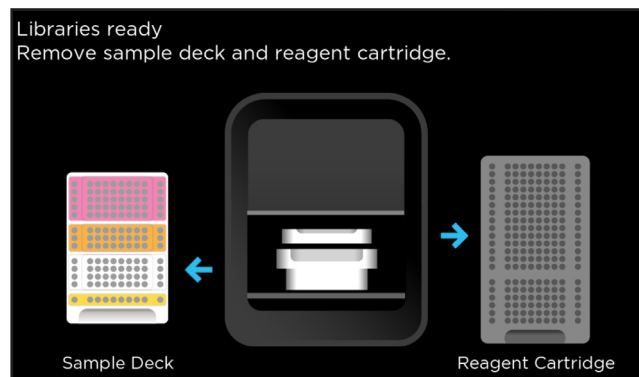

Figure 16. Libraries ready screen.
1. Assess the libraries by running 2 μ L of 5 ng/ μ L each library on a Fragment Analyzer using the HS NGS Fragment Kit or 1 μ L on a Bioanalyzer with the High Sensitivity DNA Kit (Agilent Technologies). A typical fragment distribution for high quality inputs is shown in Figure 16.